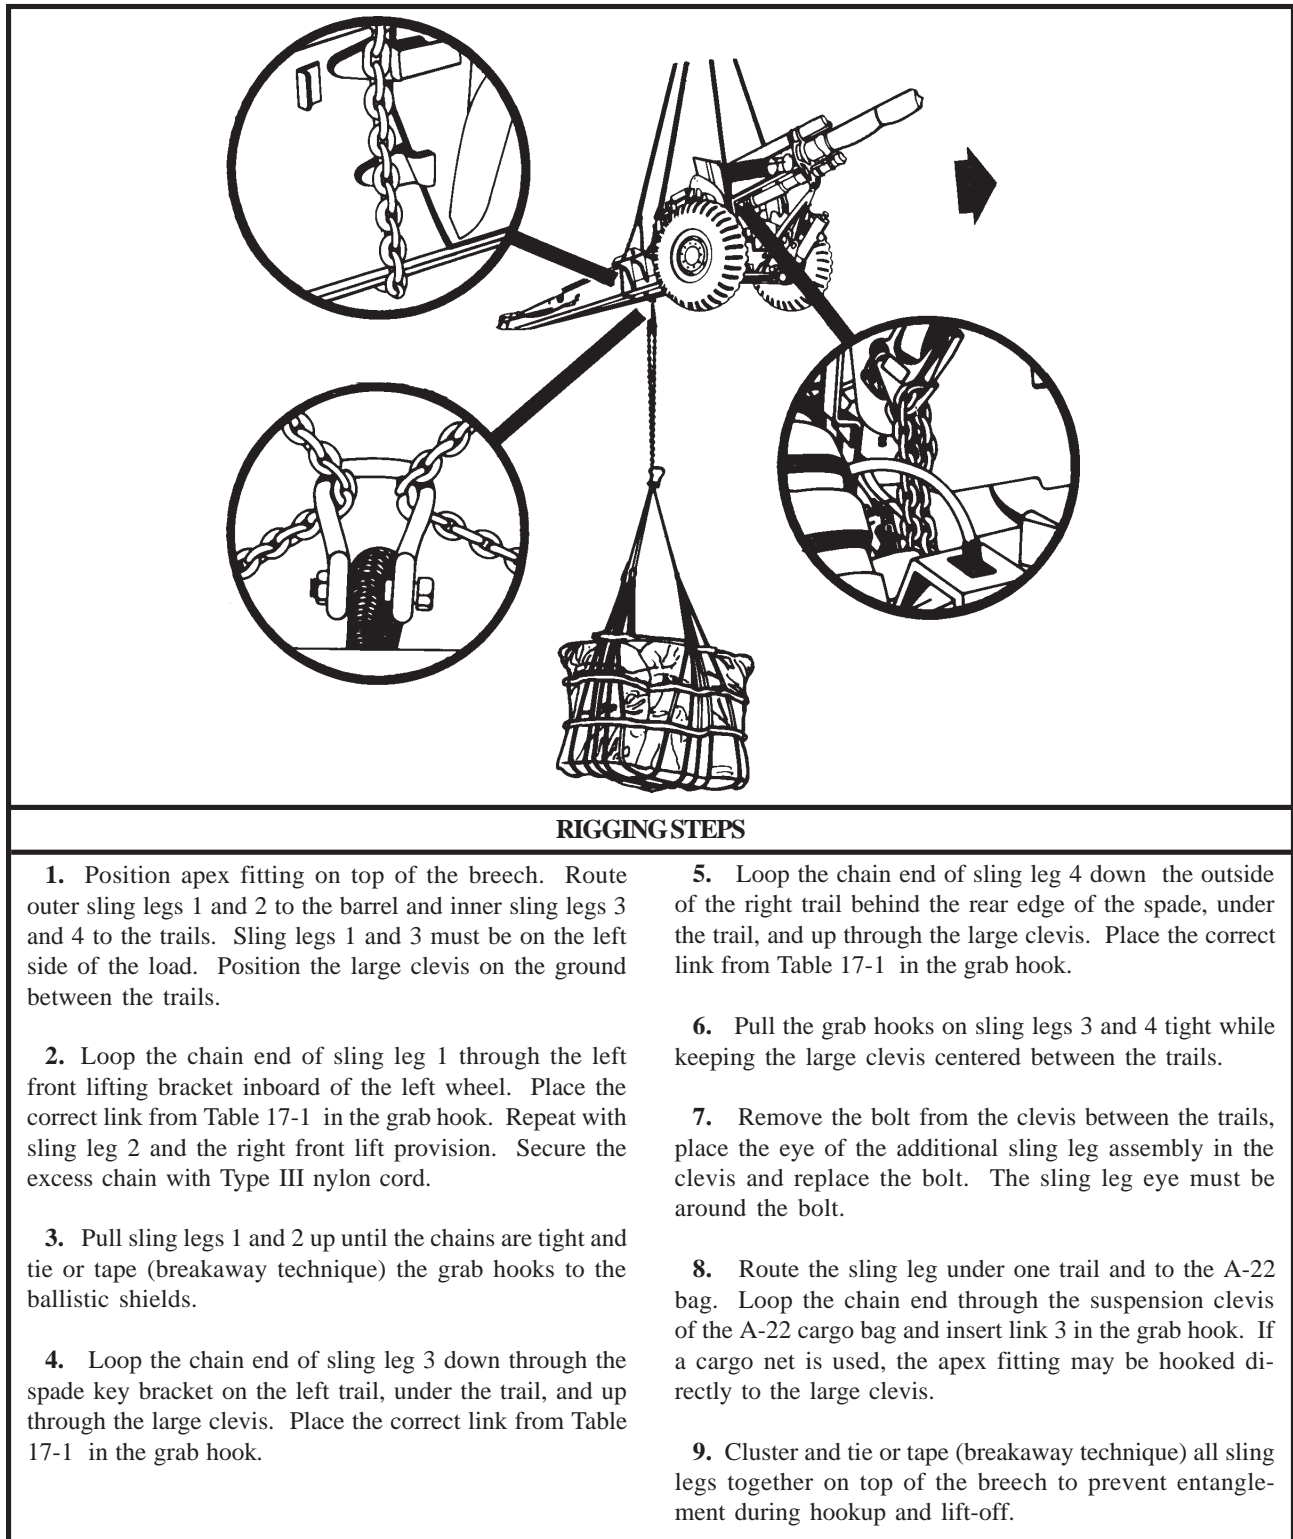

Figure 17-1. M114A1 155-MM Howitzer with or without Accompanying Load
(2) **Rigging.** Rig the load according to the steps in Figure 17-1.
(4) **Derigging.** Derigging is the reverse of the preparation and rigging procedures in steps d (1) and d (2).